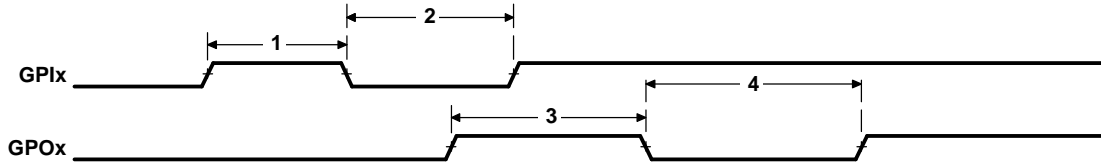

Figure 5-15. GPIO Port Timing
**Table 5-22. Timing Requirements for GPIO Inputs(1) (see Figure 5-15)**
(1) The pulse width given is sufficient to generate a CPU interrupt or an EDMA event. However, if a user wants to have DM6446 recognize the GPIx changes through software polling of the GPIO register, the GPIx duration must be extended to allow DM6446 enough time to access the GPIO register through the internal bus.
**Table 5-23. Switching Characteristics Over Recommended Operating Conditions for GPIO Outputs (see Figure 5-15)**